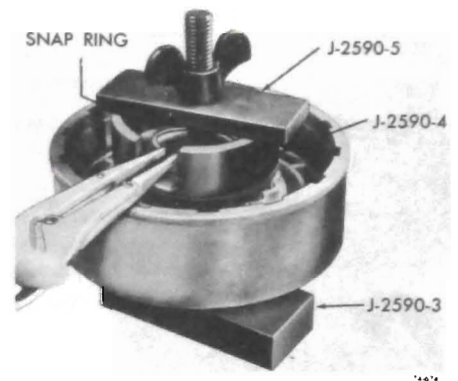

Figure 76-688
7. Using Tool J-2590, install snap ring. See Figure 76-688.